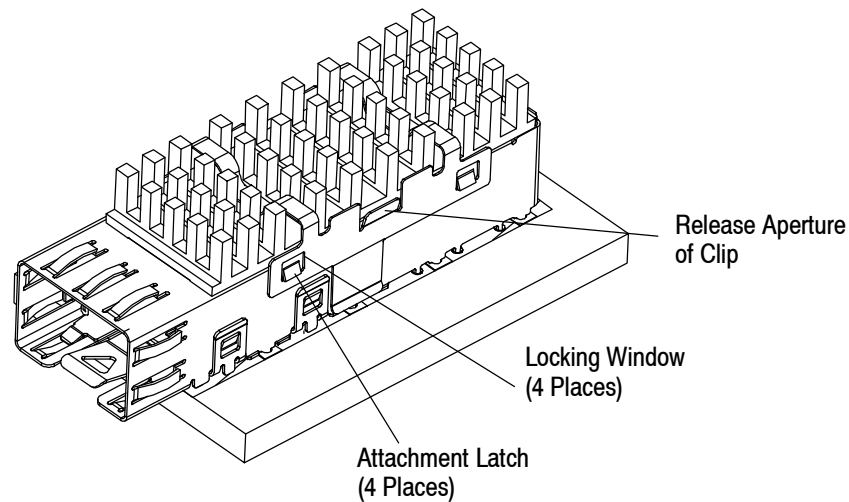

Figure 14
1. Insert the tip of the tool (such as a small screwdriver) behind either release aperture of the clip, and rotate the tool until the corresponding locking windows are released from the attachment latches of the cage assembly. Repeat this step for the remaining release aperture. Refer to Figure 14.